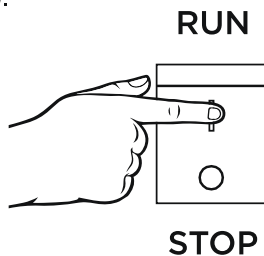

Figure 8 - Engine Control Switch - RUN
5. Push the engine control switch into the **RUN** position (see Figure 8).